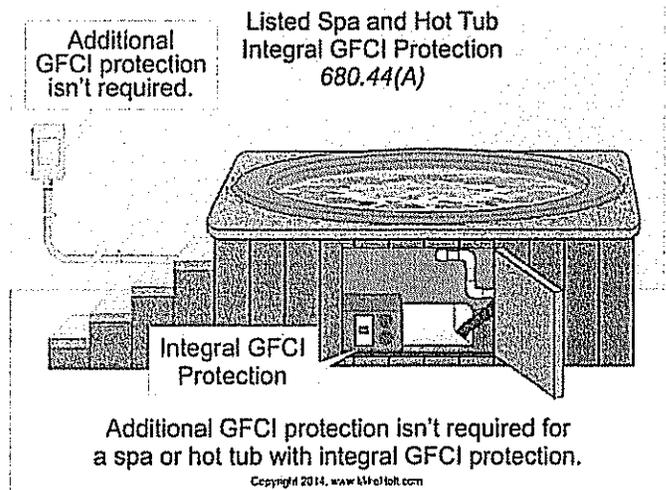

Figure 680-59
**(A) Listed Units.** Additional GFCI protection isn't required for a listed self-contained spa or hot tub unit or listed packaged spa or hot tub assembly marked to indicate that integral GFCI protection has been provided for electrical parts within the unit or assembly. Figure 680-59